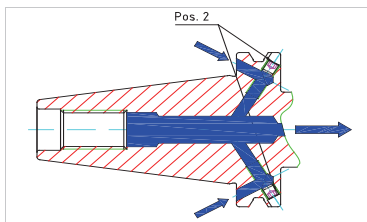

Fig. 15: Coolant Supply **Form AF/JF**
5. Screw the threaded pins with medium-strength thread locking compound (adhesive) into the cooled tool holder at "Pos. 2" (see Fig. 15: Coolant Supply **Form AF/JF**).